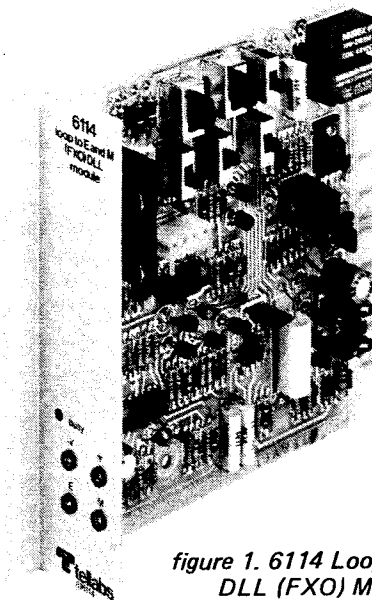

figure 1. 6114 Loop-to-E&M
1.01 The Tellabs 6114 Loop-to-E&M Dial Long Line (Foreign Exchange, Office End) Module (figure 1) provides conversion between E&M signaling and the loop signaling used at the office (switching-equipment) end of a foreign-exchange (FX) circuit or the PBX end of an off-premises-station (OPS) circuit. Specifically, the 6114 converts E-lead signals to loop signaling for operation of the switching equipment and converts loop supervisory and ringing signals from the switching equipment to M-lead outputs. The 6114 is typically used in a 2wire circuit with an associated term set or repeat coil. The resulting two-module arrangement provides facility signaling, loop signaling, and conversion between the two signaling modes at the office end (or PBX end) of an FX or OPS circuit.